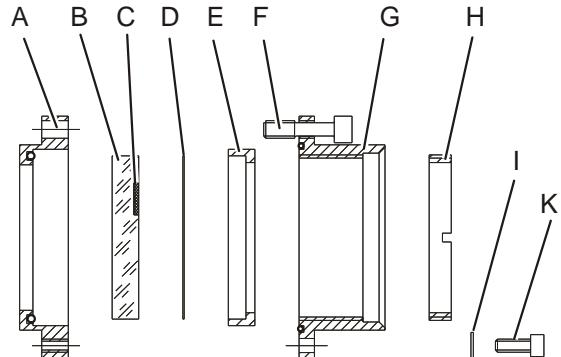

Figure 95: Assembling the optics mount
Key to Figure 95:
6. Insert the spacer (see Figure 95 D) and mirror (B) into the collar (E). The coated side (C) of the mirror has to point towards the spacer and collar.